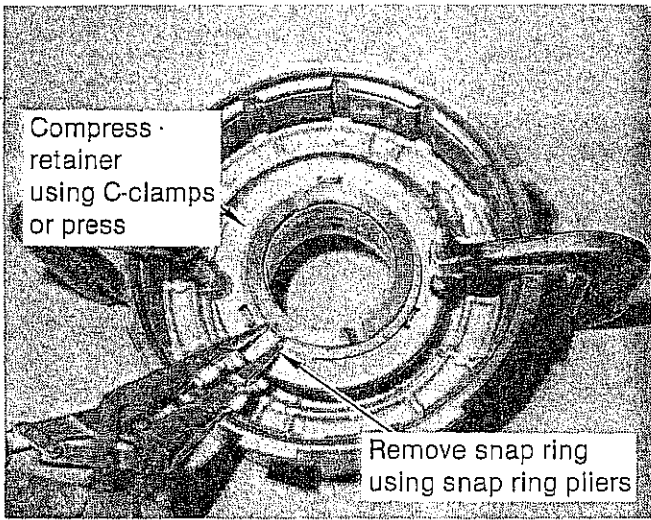

FIGURE 24
**STEP 2.** Use an arbor press or two C-clamps to compress the piston return spring retainer. (See Fig. 24) Be careful not to distort the retainer. Remove the snap ring and release the press carefully. Remove spring retainer and six to fifteen return springs. Discard the return springs. Remove the clutch piston from the drum. Remove and discard the outer rubber lip seal from the piston and the inner rubber lip seal from the clutch retainer. Set the piston, spring retainer and snap ring in the oil pan.